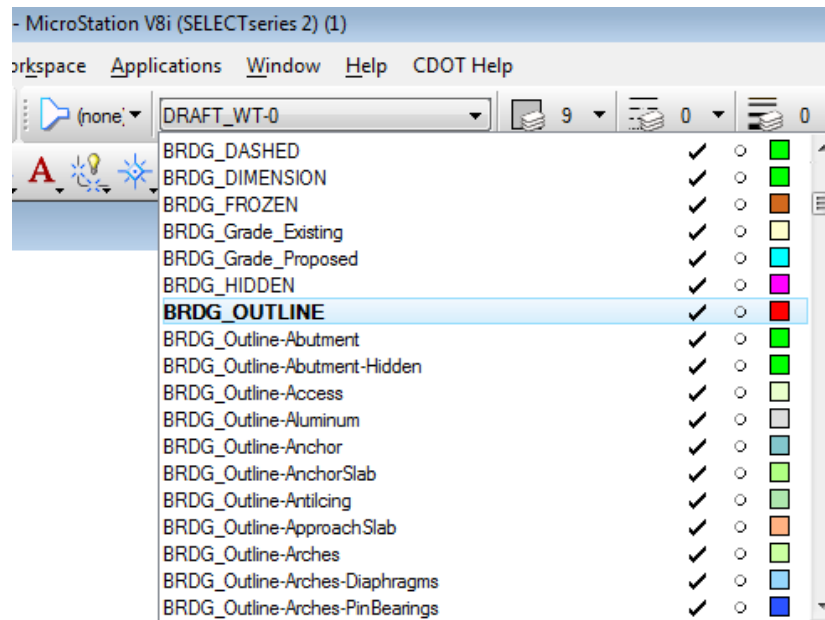

Fig. B.5-1 Active Level Selection
1. Select the level from the Attributes tool box, as shown in Fig. B.5-1.